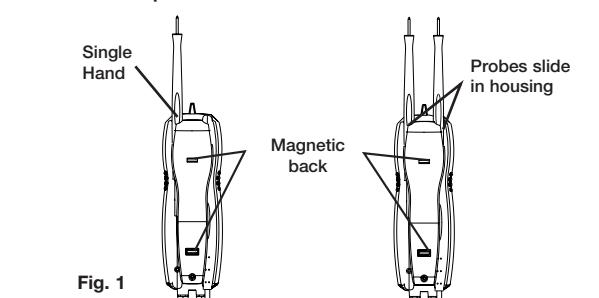

Fig. 1
- This meter is designed with probe holders and magnets to allow for maximum versatility and single hand testing. Refer to the drawings in Fig. 1 for common setups.